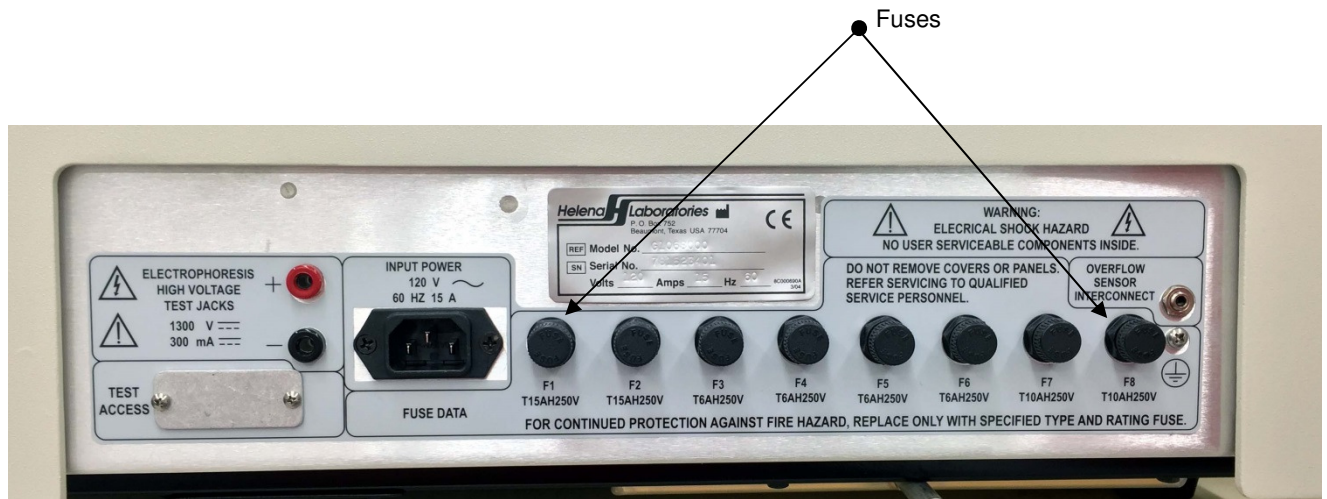

Figure 10-1 Fuses
2. Using the provided screwdriver, which matches the slot in the fuse holder, press inward and turn the fuse holder counterclockwise to remove the fuse holder (Figure 10-1).